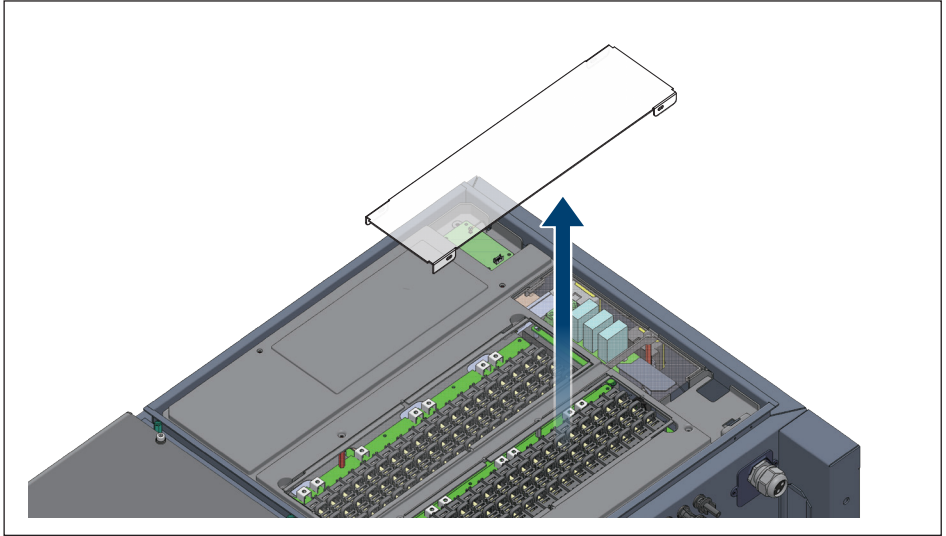
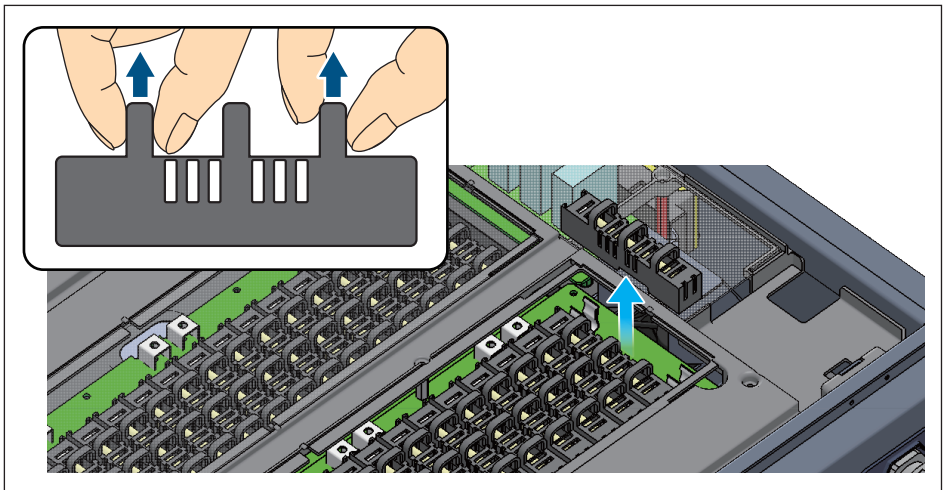

Figure 5-10: Fuse holder locations
Figure 5-11: Accessing the individual fuses
Figure 5-10 shows the location of the combiner fuse holders and shield cover, and **Figure 5-11** provides details to remove a fuse; refer to **Figure 2-5** for additional information.
4. Based on step 1, check the corresponding fuse locations by pulling out the fuse holder (**Figure 5-11**) and checking continuity of the fuse.